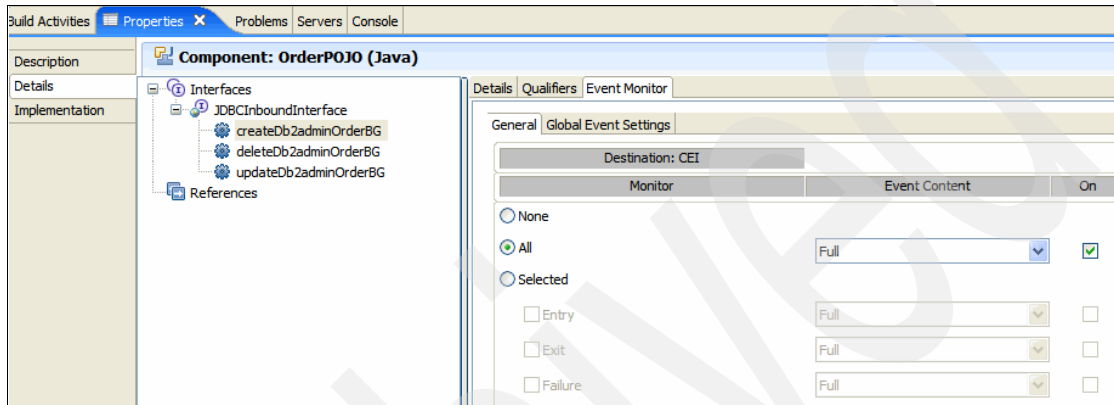

Figure 6-40 General event settings
- a. Click the **Details** tab (Figure 6-40). Expand **Interfaces** → **JDBCInboundInterface** and select **createDb2adminOrderBG**.